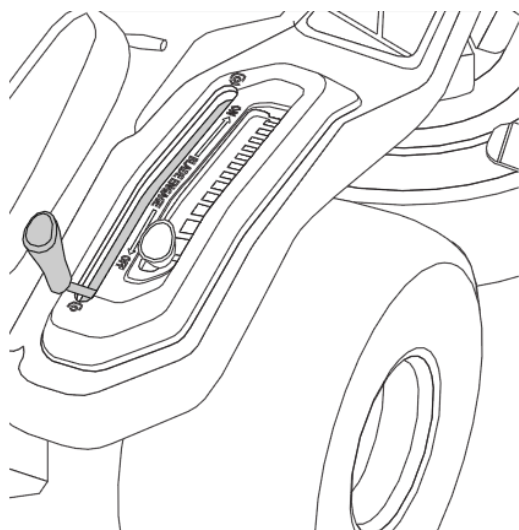

Fig.20
2. To disengage the blades: Move the lever all the way backward. (Fig.20)